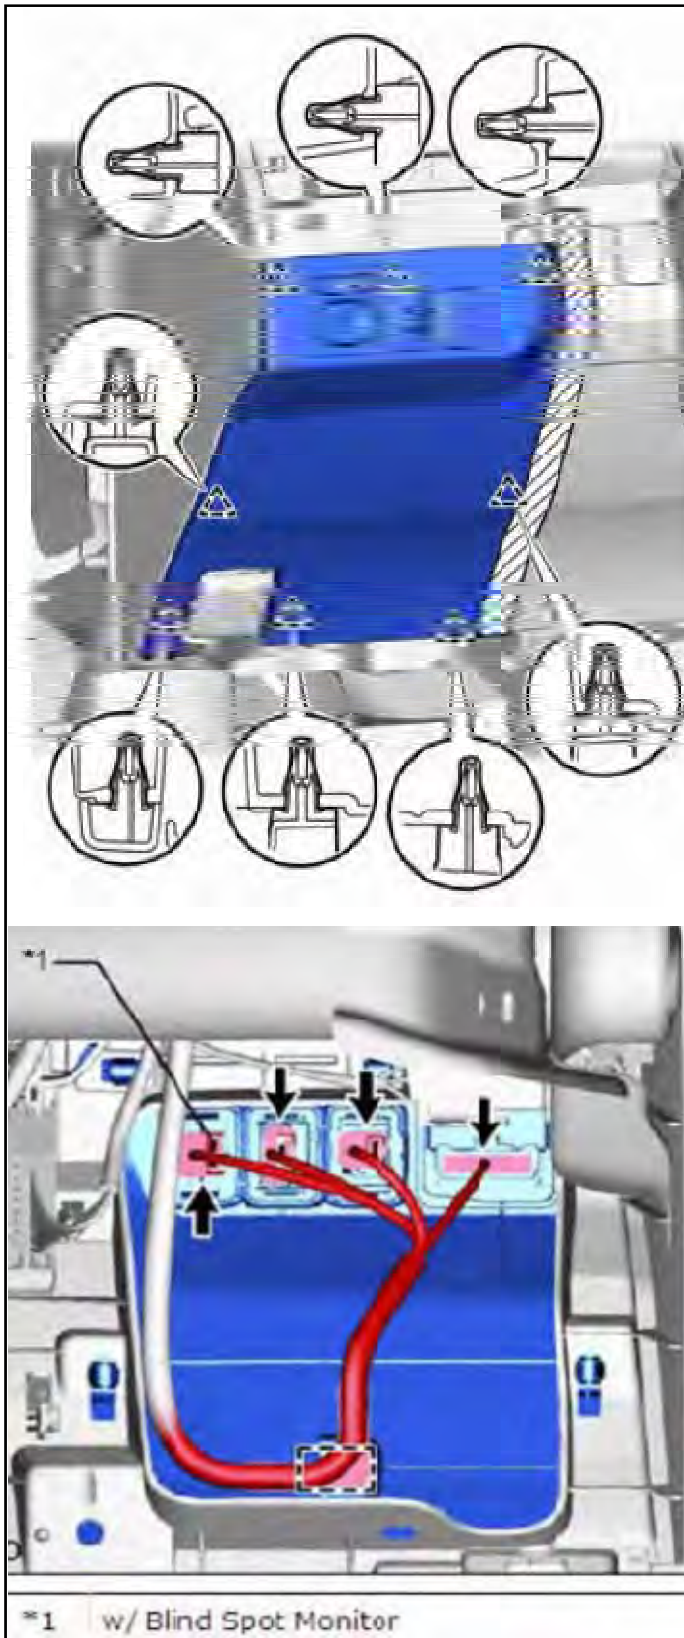

Figure 4
- Using a molding remover, disengage the 6 clips in the direction indicated by the arrow (1) as shown in the illustration. Pull the instrument side panel LH in the direction indicated by the arrow (2) as shown in the illustration to disengage the 2 guides and remove the instrument side panel LH. See figure 4.